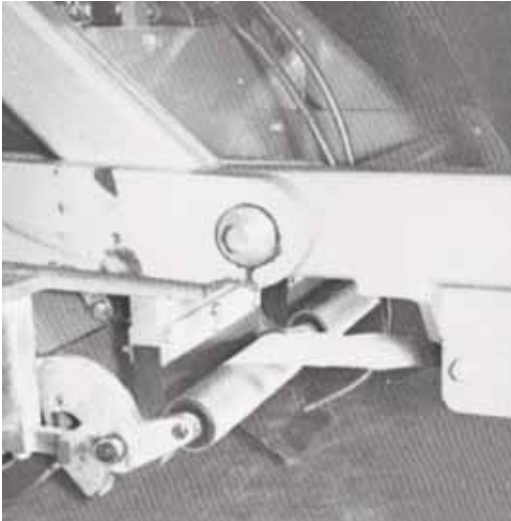
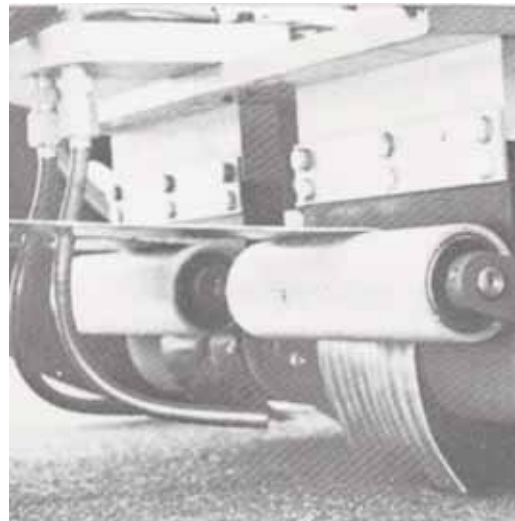

Figure 28
Figure 29
O. Move the toggle switch on the junction box to the “DOWN” position, which brings the application roller up to the stop bar as shown in Figure 28. Fold the 3" (7.6 cm) leading edge backwards around the applicator roller (Figure 29). Adjust the 3/8 (0.9 cm) copper tubing shown in Figure 28 and 29. These toggle switches are not used again except when it is necessary to re-thread.
- A. Cut tape at applicator roller (Figure 29). Wind tape in machine back into stock roll.